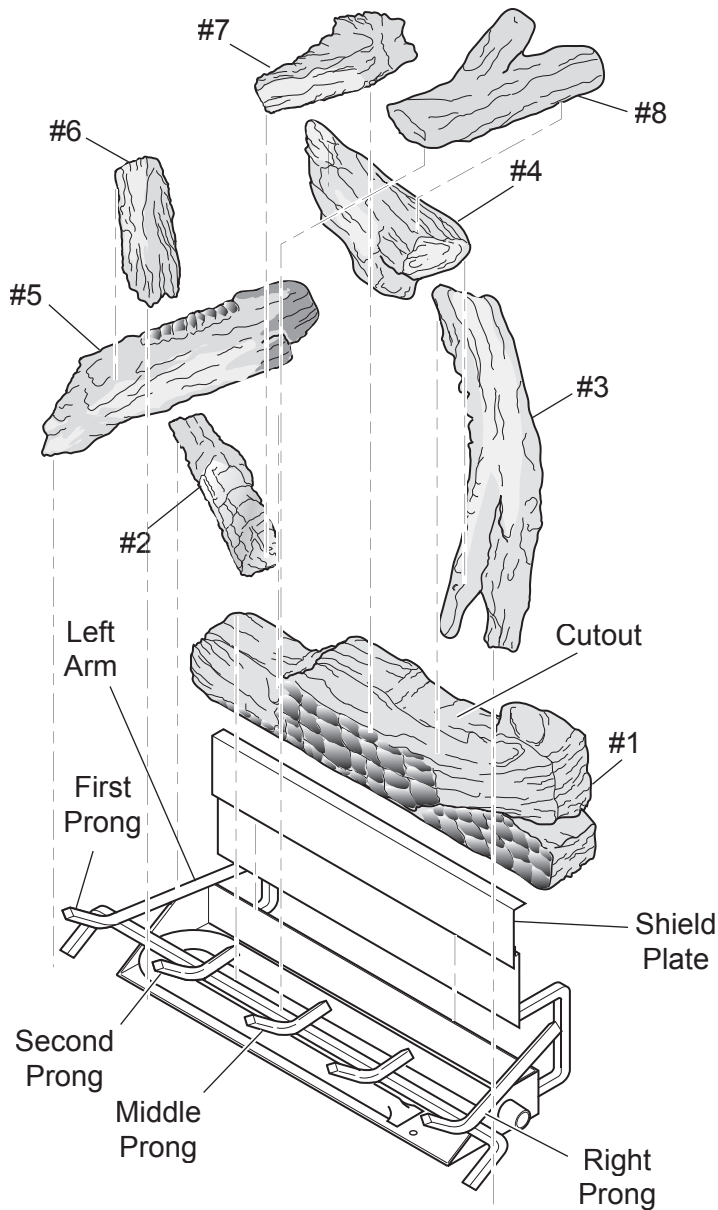

Figure 22 - VWF24/18SRO, VWF30/24SRO and VWF36/30SRO (Split River Oak) Log Placement
1. Slide shield plate down back of burner pan. *See Figure 22.*
2. Place Back Log #1 on back of grate. *See Figure 22.*
3. Place Bottom Left Log #2 in front of back log on left arm of grate. Rest end of bottom left log between second and middle prong of grate. *See Figure 22.*
4. Place end of Bottom Right Log #3 on cutout of back log #1. Rest other end of right bottom log to the outside of right grate prong. *See Figure 22.*
5. Rest right end of Top Right Log #4 on bottom right log. *See Figure 22.*
6. Rest Bottom Left Log #5 on back log #1 and to the outside of the left grate prong. *See Figure 22.*
7. Place end of Top Left Log #6 on bottom left log. Rest the other end between the first and second grate prongs. *See Figure 22.*
8. Rest Center Top Log #7 on bottom left log #2 and back log #1. *See Figure 22.*